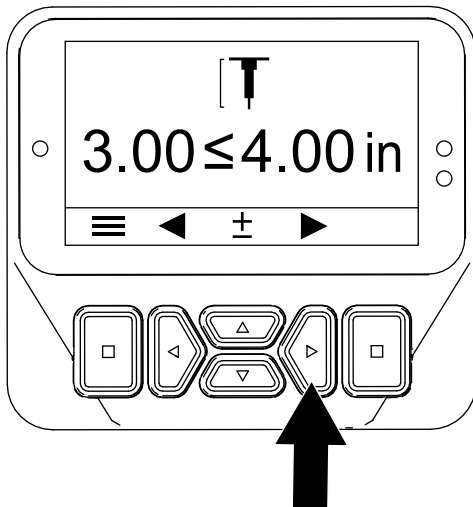

Figure 47
- Press the right button to display the Setting the Hole Depth screen (Figure 47).